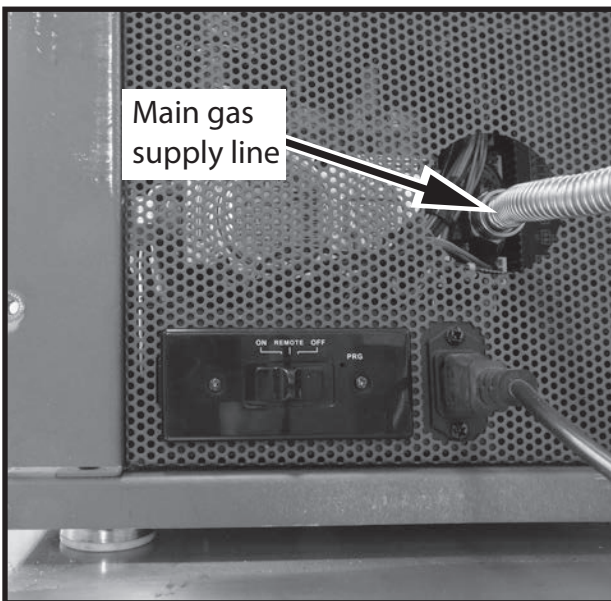

Figure 60: Removing the main gas supply line.
11. Disconnect the main gas supply line (Figure 60).